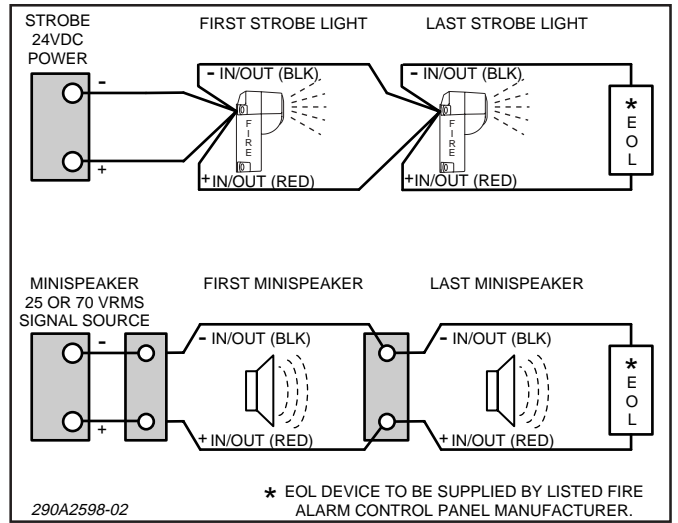

Figure 4. Minispeaker Wiring Diagram (Strobe Unit).
See figure 4. Connect the strobe light's red (+) lead to the power source positive (+) lead. Connect the strobe light's black (-) lead to the power source negative (-) lead. Connect the minispeaker wiring as described in B.3.a above.
4. Mounting Arrangements (see figure 4).